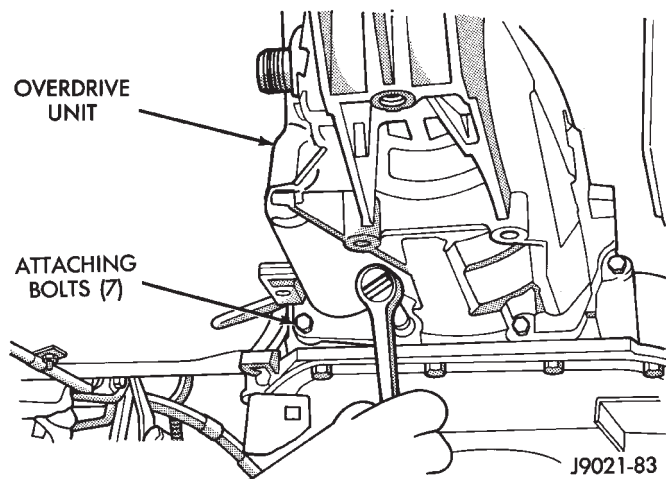

Fig. 13 Removing/Installing Overdrive Unit Attaching Bolts
- (7) Disconnect vacuum switch hoses at transfer case, if equipped.
- (8) Disconnect transfer case shift linkage at transfer case range lever. Then remove linkage bracket bolts and remove linkage and bracket from transfer case. Move linkage aside for clearance.
- (9) Remove nuts attaching transfer case to overdrive unit.
- (10) Remove transfer case. Support transfer case with transmission jack (secure transfer case to jack with safety chains). Then move transfer case rearward and off overdrive case.
- (11) Remove transfer case from jack and position it on bench.
- (12) Support transmission with adjustable jack stand. Position wood block between jack and transmission case.
- (13) Remove nuts and bolts attaching transmission mount to center crossmember.
- (14) Remove nuts and bolts attaching crossmember to frame rails.
- (15) Rotate crossmember diagonally to clear frame rails and remove crossmember.
- (16) Support overdrive unit with transmission jack.
- (17) Remove bolts attaching overdrive unit to transmission (Fig. 13).
(10) Verify that splines in overdrive planetary gear and overrunning clutch hub are aligned with Tool 6227-2 (Fig. 13). **Overdrive unit cannot be fully installed if splines have rotated out of alignment. If misaligned has occurred, overdrive will have to be disassembled in order to realign splines.**
(11) Install overdrive unit as follows: